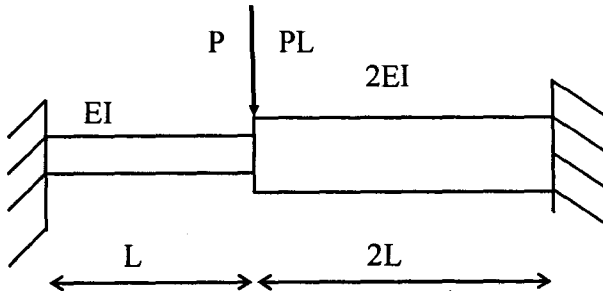

Figure Q2
2. Using two beam elements to model the structure as shown in Figure Q2, find the deflection and internal force quantities for left side member only.